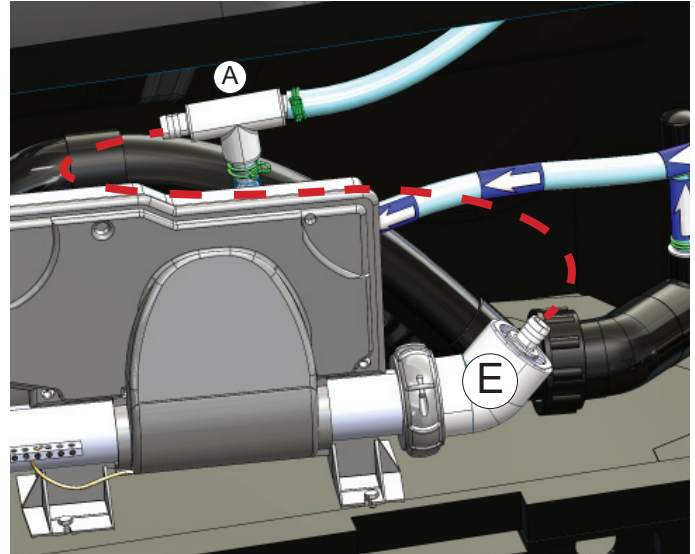

Figure 9.2
5. Install Frog Bypass Assembly (A) as shown in (Figure 9.2) making sure to secure all barb connections with 3/4" Hose Clamp (K).
6. Measure distance from Frog Bypass Assembly (A) barb connector to Heater Outlet Assembly (E) (Figure 9.2).
7. Using the 3/4" clear vinyl hose(Q) that comes in kit, cut to size measured in previous step (Figure 9.2).